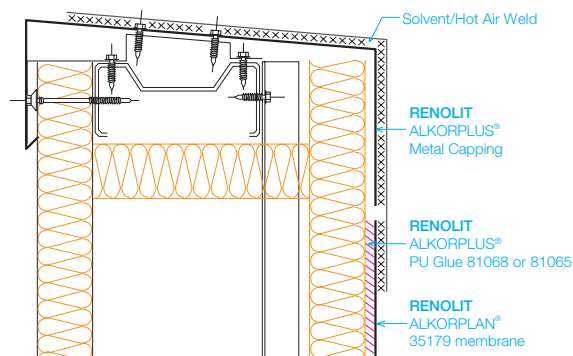

Fig. 2. gluing of parapets
- A mechanical edge restraint along the perimeter of the roof and around roof penetrations is not required where the roofing membrane is fully adhered in the perimeter area (minimum 2 m) and to the parapets. (See Fig. 2) The RENOLIT ALKORPLUS₈₁₀₆₈ or ₈₁₀₆₅ PU glue is applied to the surface of the upstand with a minimum consumption of 300 g/m². The parapet will have a RENOLIT ALKORPLAN metal trim, but the compressive foam and intermediate fastening can be omitted.